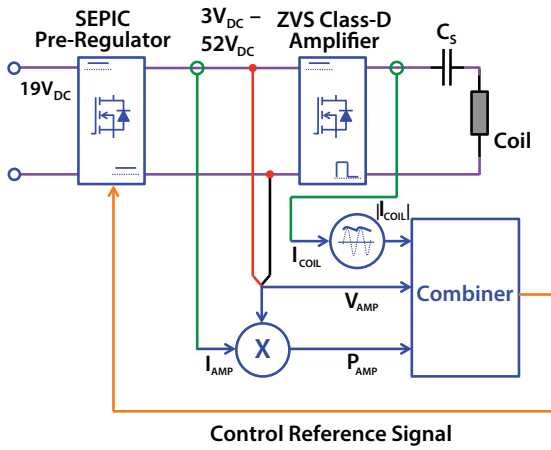
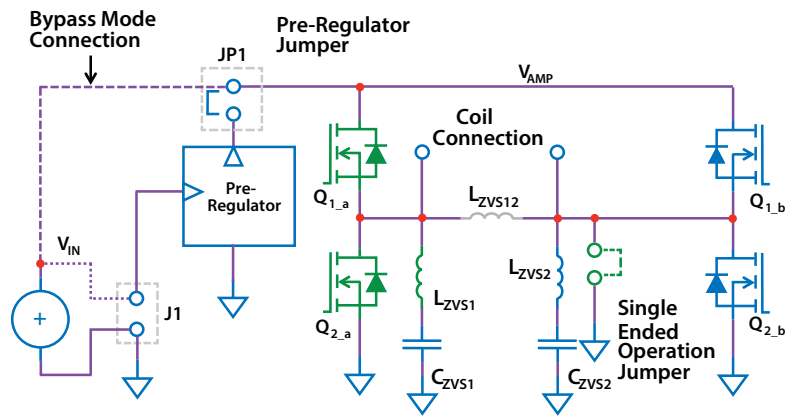

Figure 2: Block diagram of the EPC9509 wireless power amplifier.
Figure 3: Diagram of EPC9509 amplifier circuit.
Figure 2 shows the system block diagram of the EPC9509 ZVS class-D amplifier with pre-regulator and Figure 3 shows the details of the ZVS class-D amplifier section. The pre-regulator is used to control the ZVS class-D wireless power amplifier based on three feedback parameters 1) the magnitude of the coil current indicated by the green LED, 2) the DC power drawn by the amplifier indicated by
2. With power off, connect the main input power supply bus to J1 as shown in Figure 3. Note the polarity of the supply connector.
2. With power off, connect the main input power supply bus +VIN to the bottom pin of JP1 and the ground to the ground connection of J1 as shown in Figure 3.